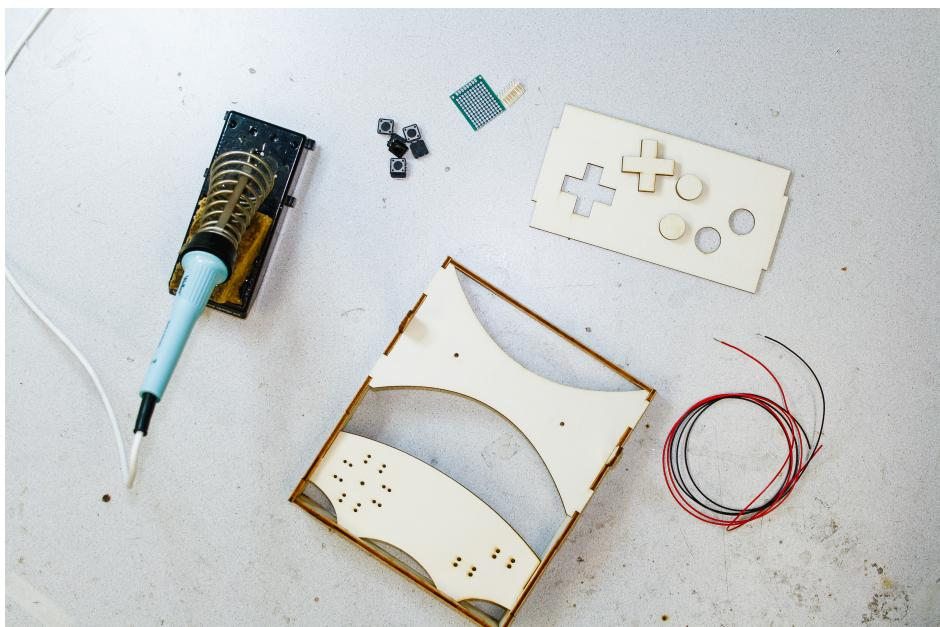

Figure 3.3: All materials for the footer.
Step 0 Start by cutting 7 pieces of red wire and 7 pieces of black wire of approximately 10cm and strip both ends ($\pm 3mm$). You should now make sure you have the following materials ready, see Figure 3.3.